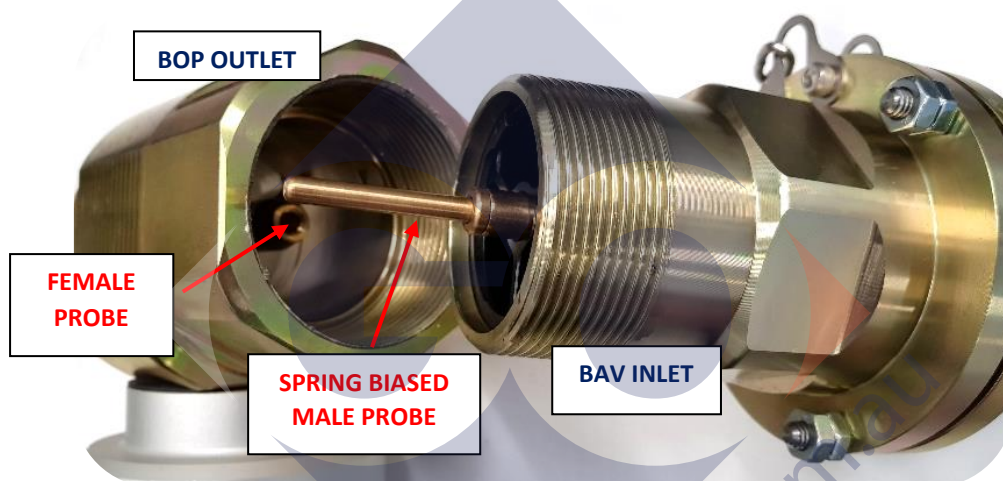

Figure 12 - Aligning FuelTrack BAV Inlet with Break-Out Point Outlet
- Align the spring biased **male** probe at the inlet of the BAV with the mating **female** probe within the outlet of the data Break-Out Point (BOP) – refer Figure 12.